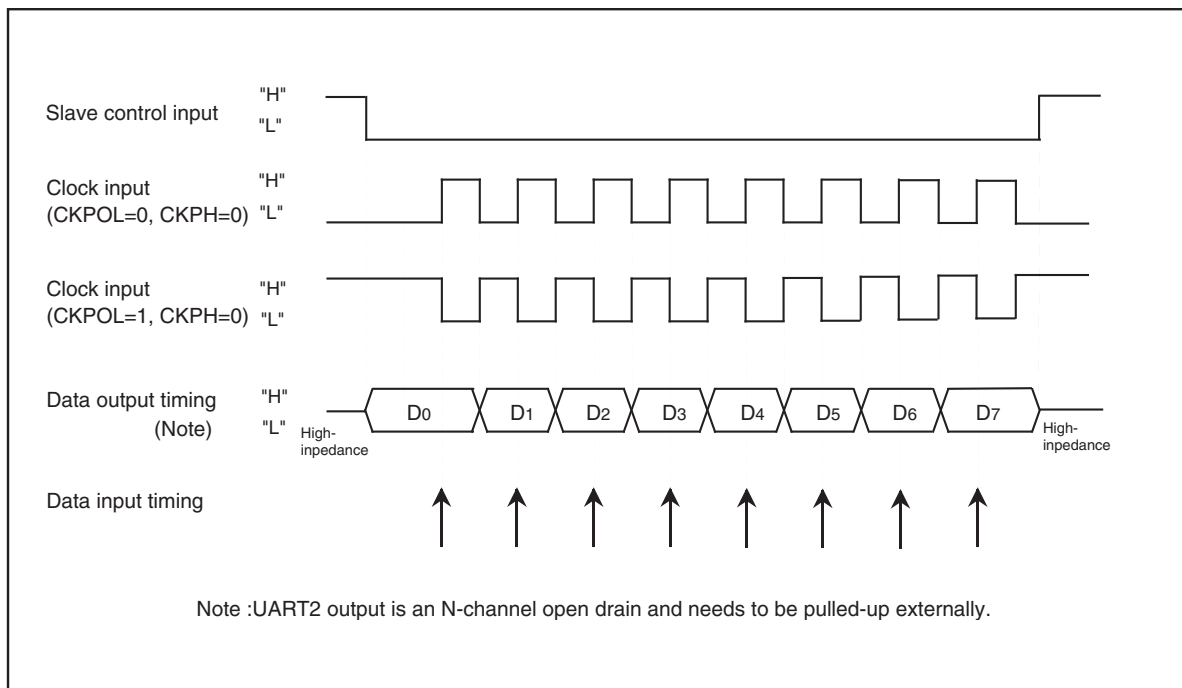

Figure 1.15.35. The transmission and reception timing (CKPH=1) in slave mode (external clock)
- Figure 1.15.35 shows the timing when bit 1 of address 037516="1"